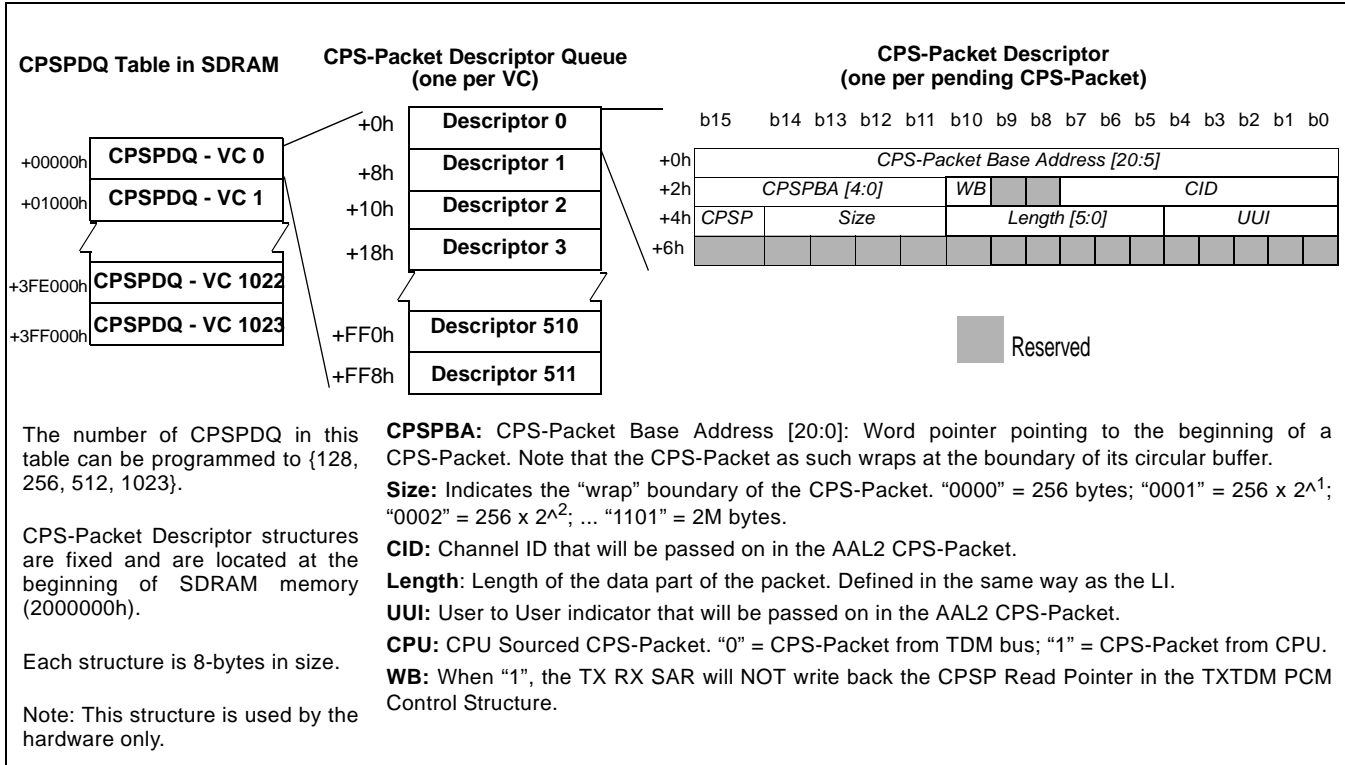

Figure 17 - CPS-Packet Descriptor Queue
The TX TDM module allows the generation of CPU sourced CPS-Packets. When the CPU requires to transmit an AAL2 CPS-Packet onto a certain VC, it programs the VC number in register 520h, and writes the CPS-Packet's descriptor structure in registers 522h to 526h. The format of the CPS-Packet descriptor structure is given in Figure 17. Word 0 must be written into register 522h, Bytes +2 and +5 to register 524h and Bytes +4 and +5 to register 526h. Finally, it writes a '1' to the cps_packet_request bit in register 520h, which begins the request. When the bit clears, the process has concluded and the CPS-Packet has been added to the TX VC's queue.
2) A CPS-Packet descriptor is written to registers 522h, 524h, and 526h. The value to which each field must be set is indicated in Figure 17, “CPS-Packet Descriptor Queue,” on page 38.